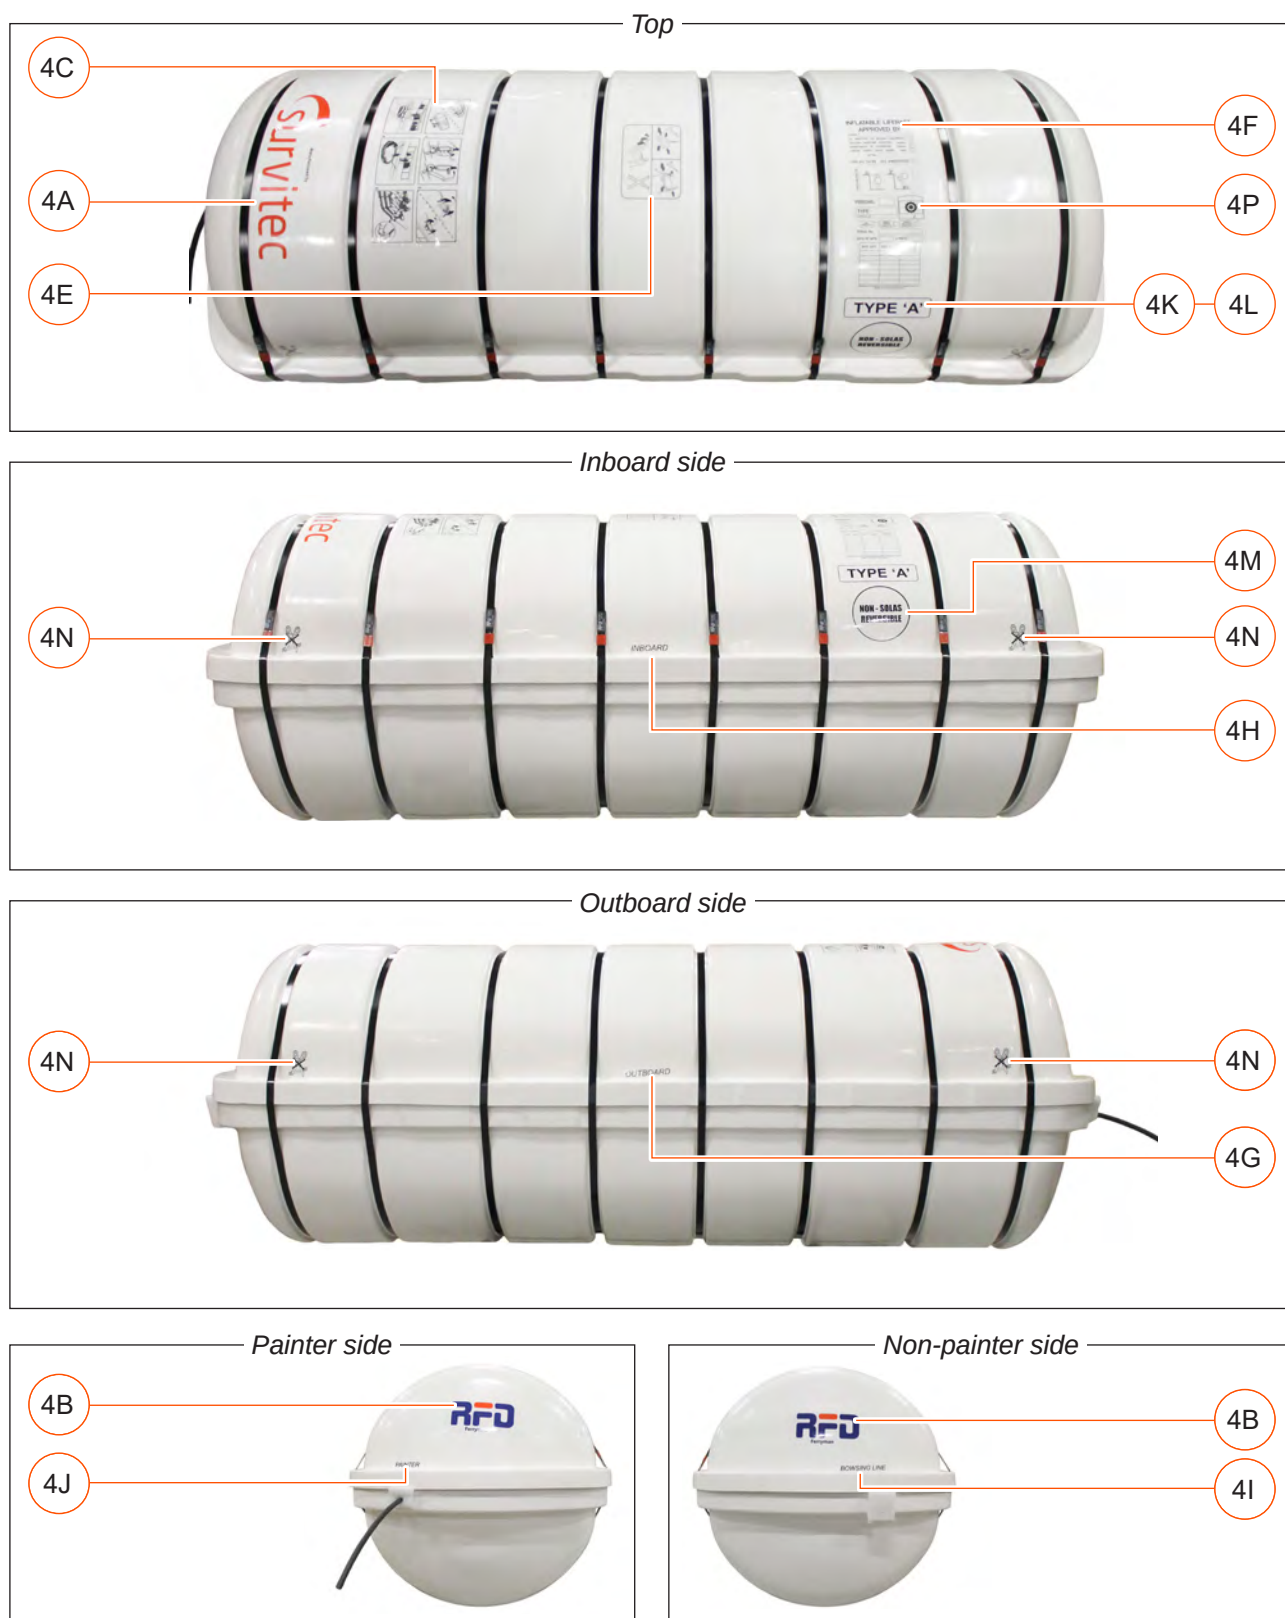

Figure 31
- Mk 10 size 9. Refer to **Figure 31** for label positions.